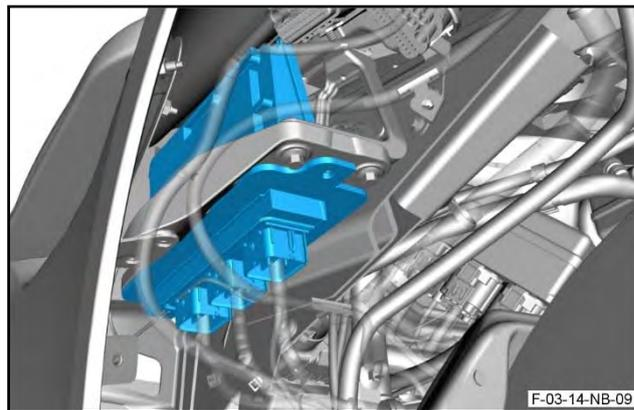

Figure 10
16. Remove the PCM (refer to Figure 10).